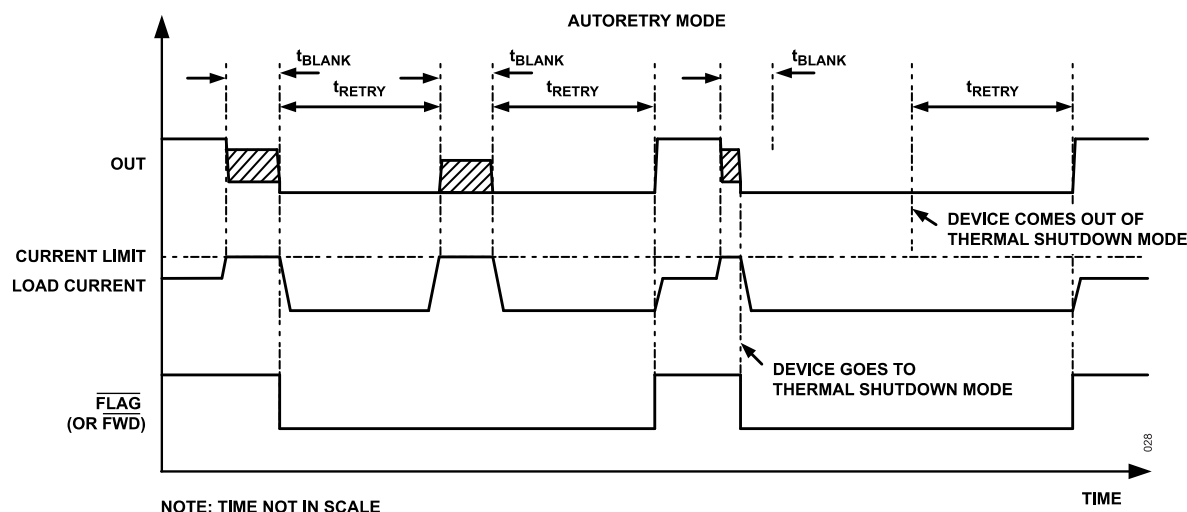
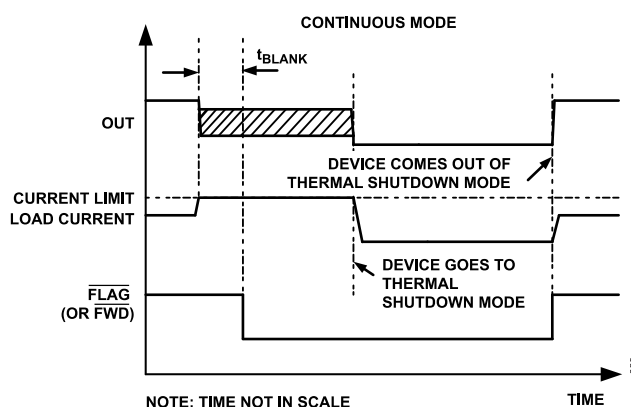
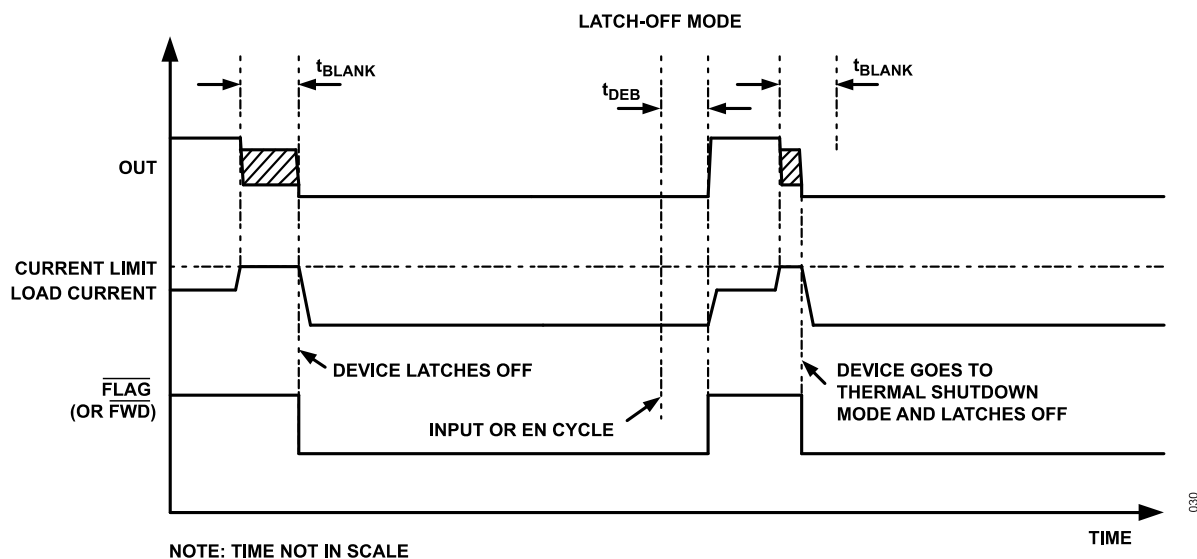

Figure 28. Autoretry Fault-Timing Diagram
Figure 29. Continuous Fault-Timing Diagram
Figure 30. Latch-Off Fault-Timing Diagram
With a 40ms (typ)  $t_{\text{BLANK}}$  and 600ms (typ)  $t_{\text{RETRY}}$ , the duty cycle is 6.25%, resulting in a 93.75% power reduction when compared to the switch being on the entire time. Figure 28 depicts typical behavior in the autoretry current-limit mode.
In continuous current-limit mode, when the current through the device reaches the current limit threshold, the device limits the output current to the programmed current limit. The FLAG (or FWD) pin asserts if an overcurrent condition is present for  $t_{\text{BLANK}}$  and deasserts when the overload condition is removed. Figure 29 depicts typical behavior in the continuous current-limit mode.
In latch-off current-limit mode, when current through the device reaches the current-limit threshold, the  $t_{\text{BLANK}}$  timer begins counting. The  $\overline{\text{FLAG}}$  (or  $\overline{\text{FWD}}$ ) pin asserts if an overcurrent condition is present for  $t_{\text{BLANK}}$ . The timer resets when the overcurrent condition disappears before  $t_{\text{BLANK}}$  has elapsed. The switch turns off and stays off if the overcurrent condition continues beyond  $t_{\text{BLANK}}$ . To reset the switch, either toggle the control logic (EN) or cycle the input voltage. Figure 30 depicts typical behavior in latch-off current-limit mode.
The thermal limit behaves similarly to the current limit. In autoretry mode, the thermal limit works with the autoretry timer. When the junction temperature falls below the falling thermal-shutdown threshold, devices turn on after the retry time. In latch-off mode, the devices latch off until power or EN is cycled. In continuous mode, the devices only disable while the temperature is over the limit. There is no blanking time for thermal protection. Figure 28, Figure 29, and Figure 30 depict typical behavior under different current limit modes.